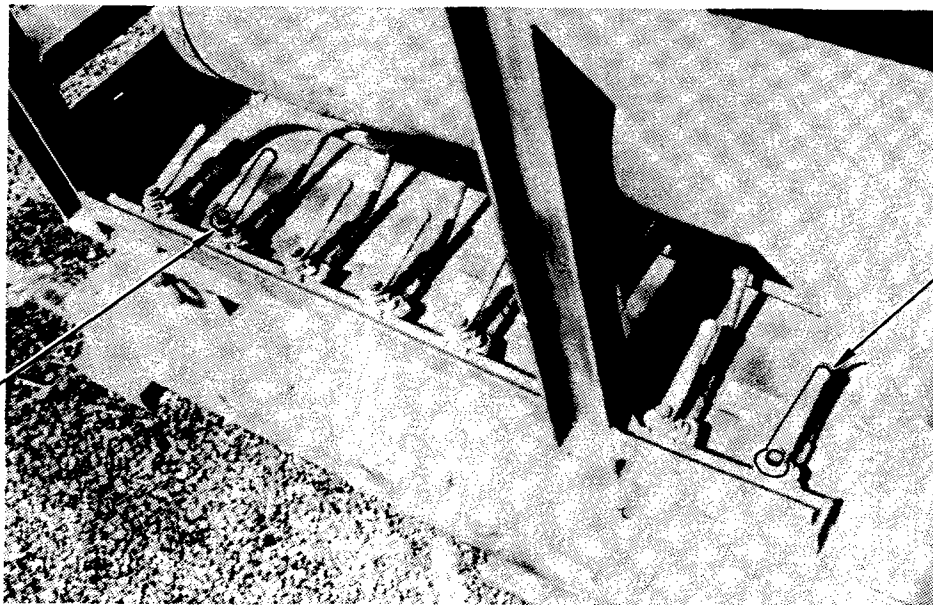

Figure 2-7. Element Vessel, Product Water Drain and Vent Valves.
- a. Drain the element vessels by opening the element vessel drain valve, the drain product water valve and the product water vent valve. These valves are depicted in figure 2-7.
- a. Close the product water drain valve (figure 2-7) on the ROWPU.
- h. Close the vent on the product water manifold (figure 2-7) after all air has been vented from the vessels. At this time, the cleaning solution is circulating through the RO vessels.